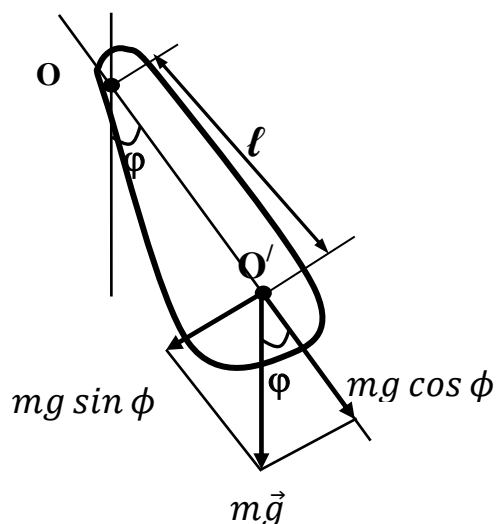

Fig. 4.1.1
*Physical pendulum* is a solid object with ability to perform oscillations around stationary horizontal axis, which does not pass through mass center of body under the action of gravity (Fig. 4.1.1).